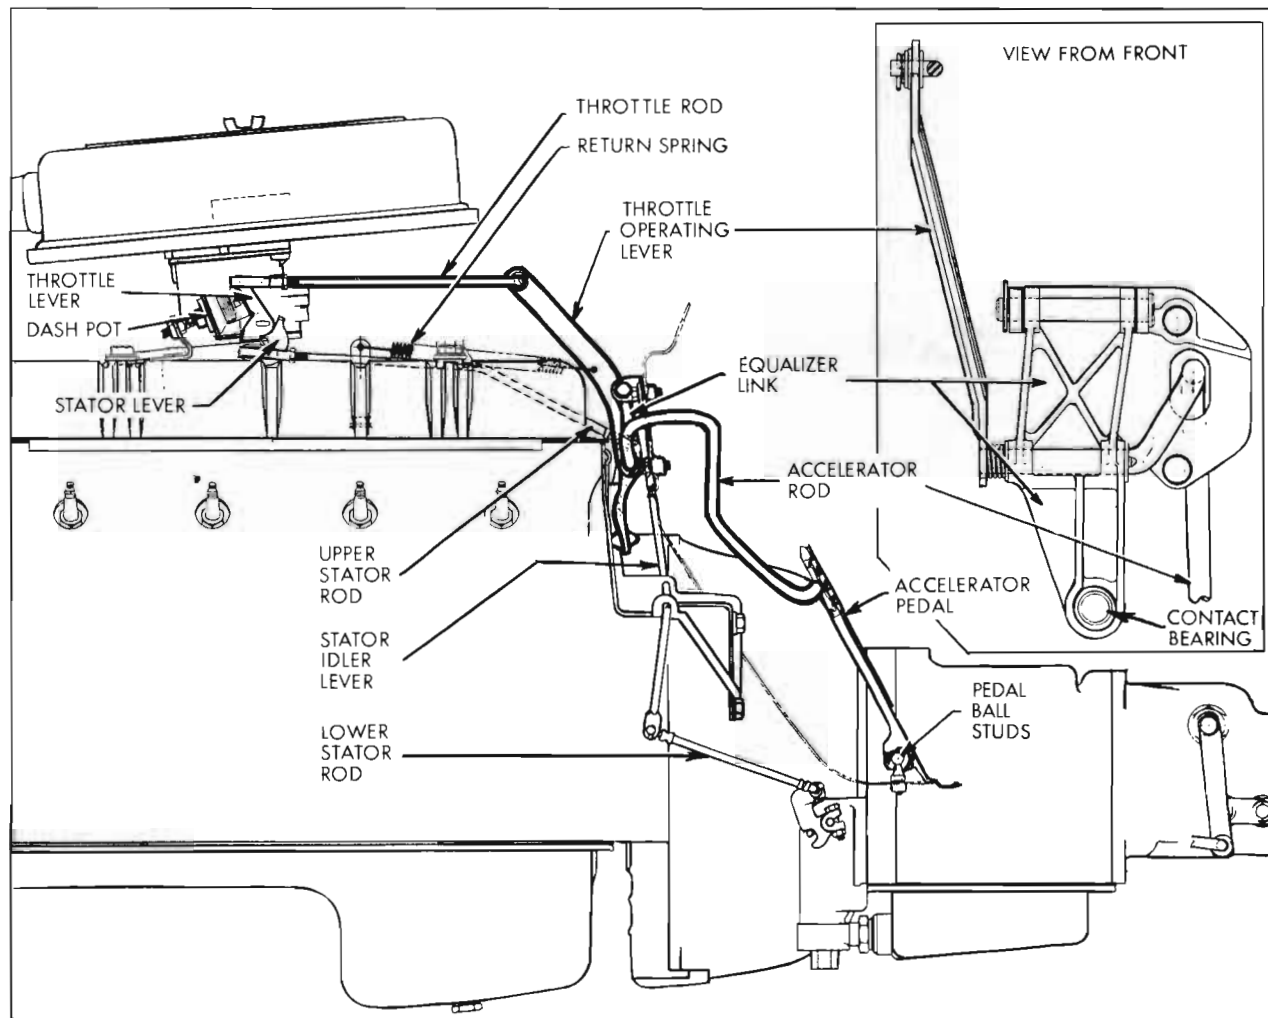

Figure 3-11—Throttle and Stator Control Linkage (Twin Turbine Transmission)
4. Disconnect throttle rod from throttle operating lever. See figure 3-11.
ward end will just slip freely in stator lever on carburetor with stator rod pulled forward and stator lever held rearward against pickup. See figure 3-11.